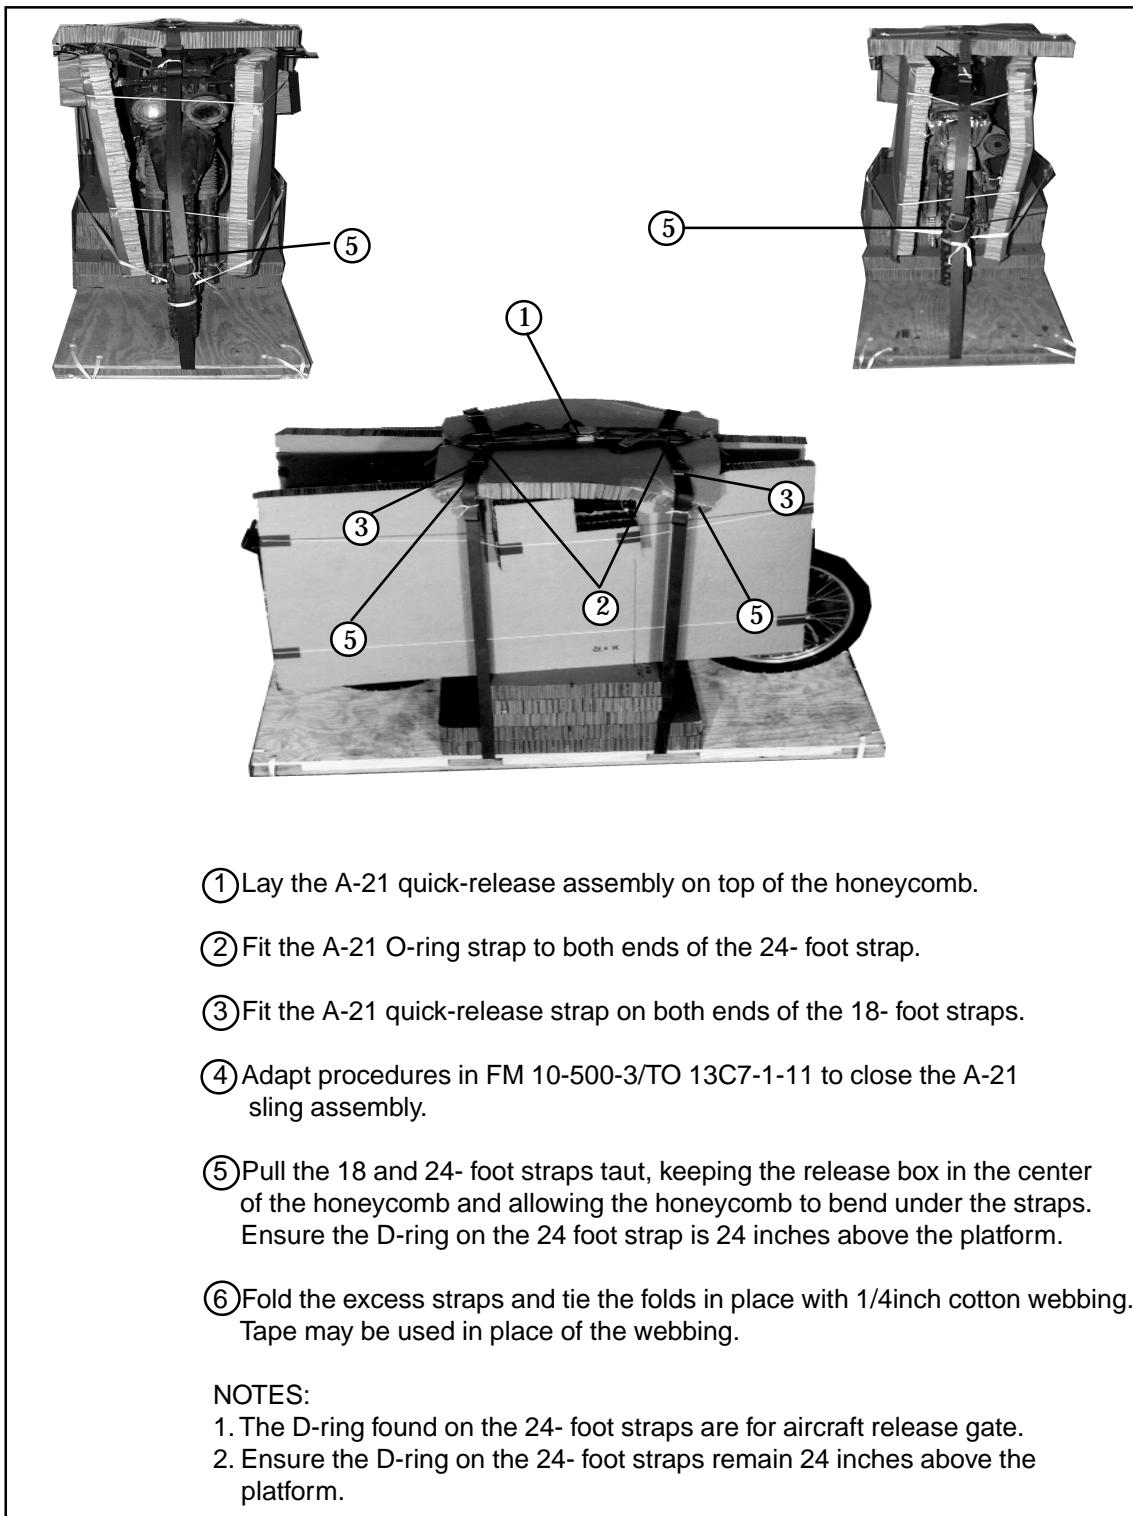

Figure 2-6. Motorcycle Secured to Platform
- Secure the motorcycle to the platform as shown in Figures 2-6 through 2-7.